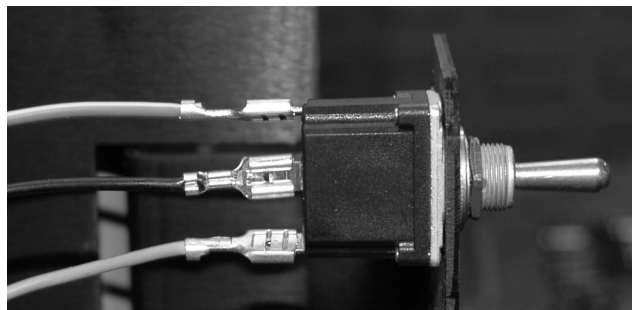

FIGURE 9
11. Attach the mounting switch wires from Xpress Plow Side Harness (3). Plug the Orange wire w/white stripe to top terminal, black wire to center terminal and gray wire to bottom terminal. As shown below (figure 9).